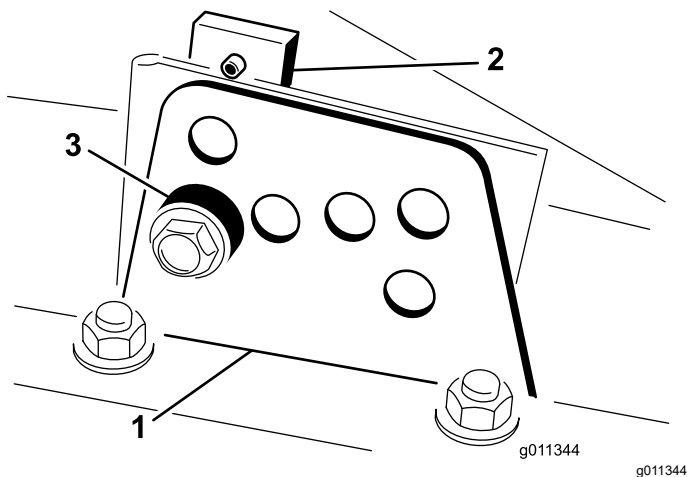

Figure 20
2. Loosen the bolt securing each height-of-cut bracket to the height-of-cut plate (front and each side) as shown in Figure 20.
4. While supporting the chamber, remove the spacer (Figure 20).